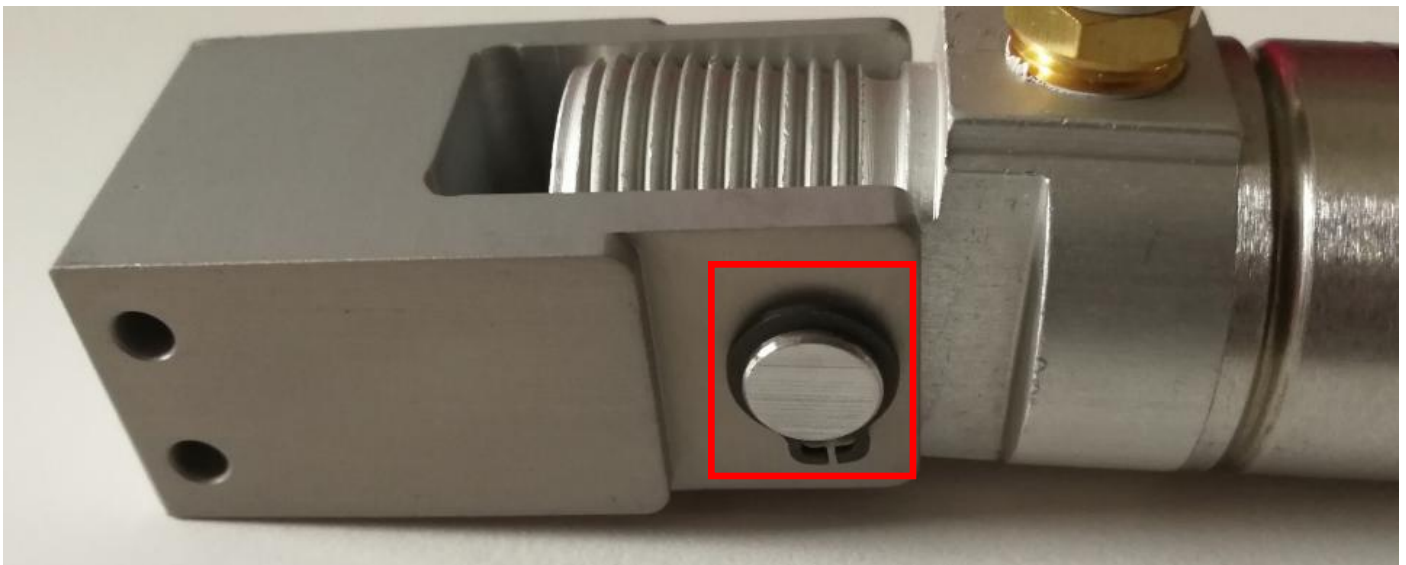

Figure 11
15. Remove 1 x C-Clip at Rear Cylinder Holder as Figure 11. Position C-Clip at visible location.